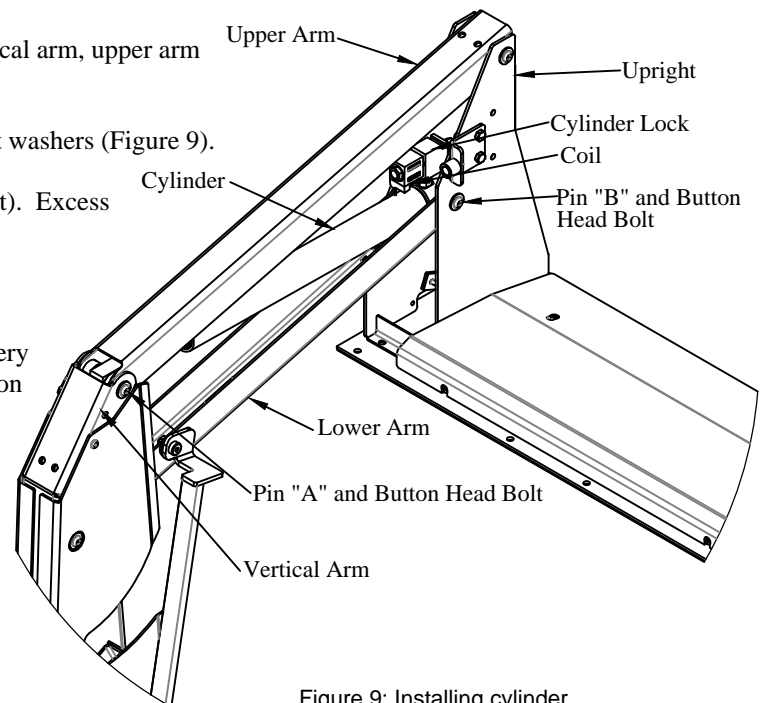

Figure 9: Installing cylinder.
2. **Install** pin "B" from the outboard side, through the lower arm, cylinder and uprights (Figure 9).
4. **Install** the coil on the cylinder lock (Figure 9).
6. **Insert** new pin "A" from the outboard side, through the vertical arm, upper arm and cylinder (Figure 9).
7. **Secure** pins "A" and "B" with new button head bolts and flat washers (Figure 9).